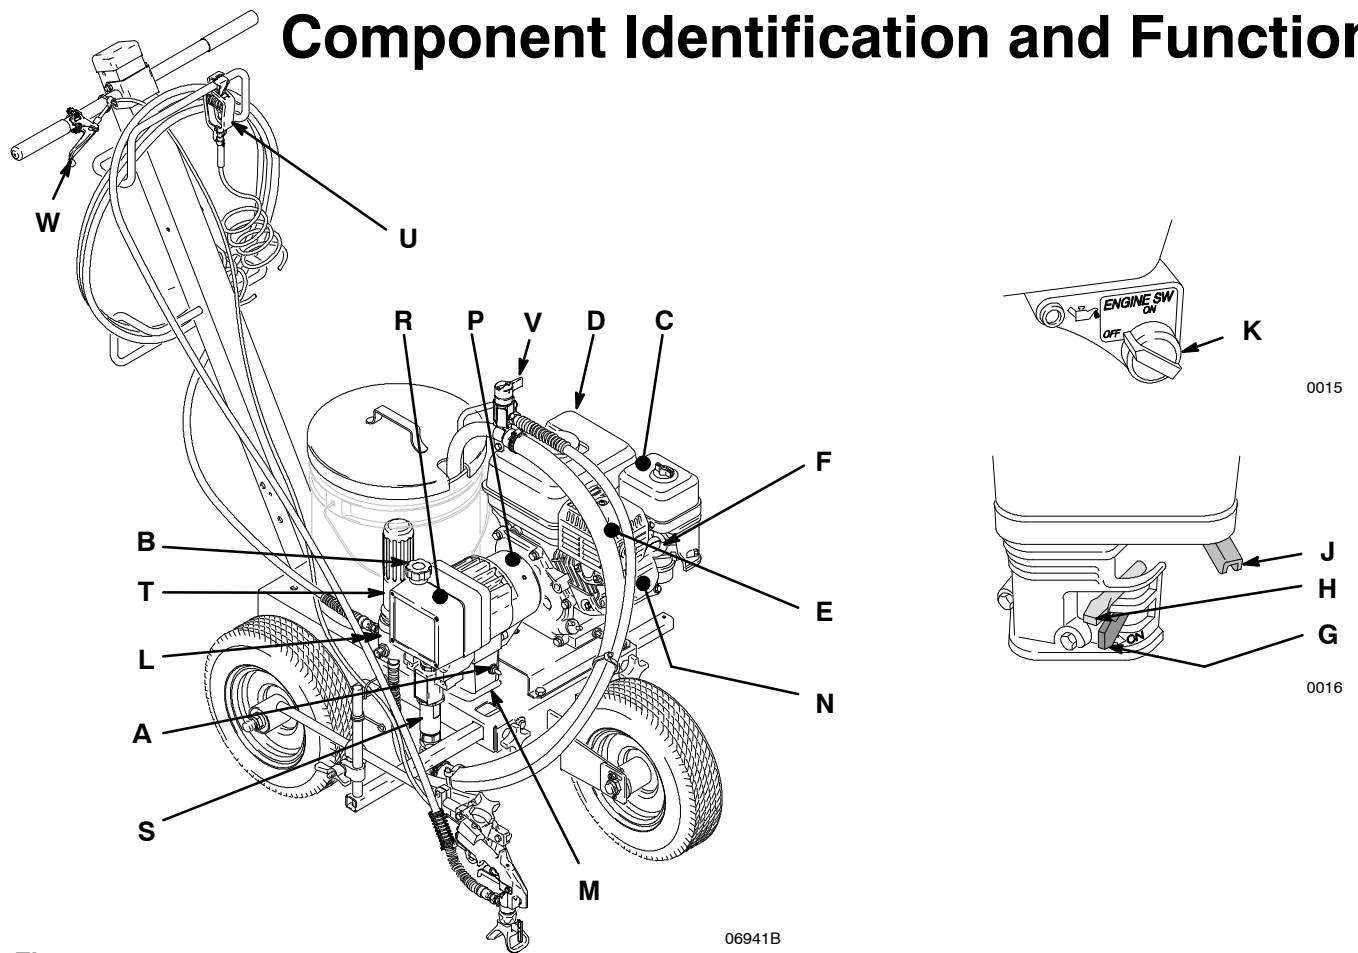

Fig. 1
- Keep the sprayer upright and level** during operation and whenever it is being transported. Set the fuel valve (G, Fig.1) to OFF.
**NOTE:** Refer to Fig. 1 as you start the sprayer.
3. **Detach pressure drain valve (V, Fig. 1) from suction tube** and place pressure valve drain tube in another bucket.